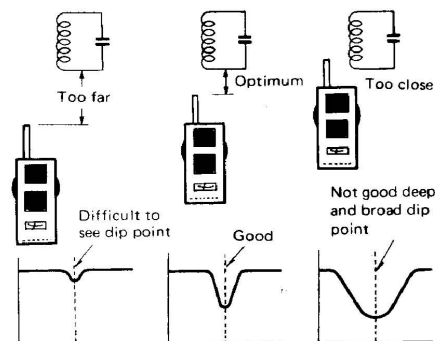

Figure 3 — Distance Adjustment for Accurate Dip Point
6. Bring the dip meter coil about 1 cm from the tuned circuit to be measured and slowly turn the dial. The oscillator signal energy will be absorbed by the tuned circuit at the resonant point and the meter will dip abruptly. (see Figure 3)